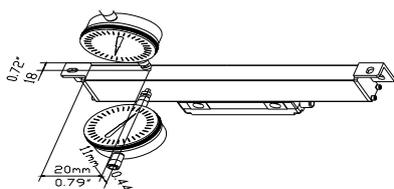
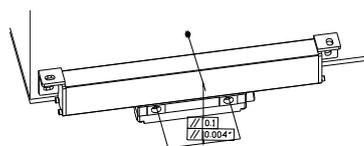

Figure 4.5
Figure 4.6
3. When you calibrate the parallelity of the body of the linear scale with level meter or other similar devices, the angle of the measuring head must be confined within $\pm 30^\circ$ (based on the measuring head of the level meter being parallel with the level meter itself). As for the angle, the smaller, the better. If you use the decimal meter (Figure 4.5, 4.6, 4.8, 4.9), you must make the bar of the measuring head perpendicular with the surface to be measured, only in this case can ensure the actual measuring precision.
9. Based on the center of the linear scale, you must take the point of symmetry of the two sides as the criteria point when adjusting the height and level of the linear scale. As to any linear scale, whenever you perform the horizontal adjustment or vertical adjustment, for the body of the linear scale itself, the range of the adjustment can't individually exceed 20mm from the end of the meter to the body of the scale (Figure4.5). As for the Read Head, perform the adjustment within the two square standard sides (Figure 4.6)
- ◆ The parallelity of the read-head referring to the worktable is less than 0.10mm, and the maximum parallelity can't exceed 0.15mm (Figure 4.6).